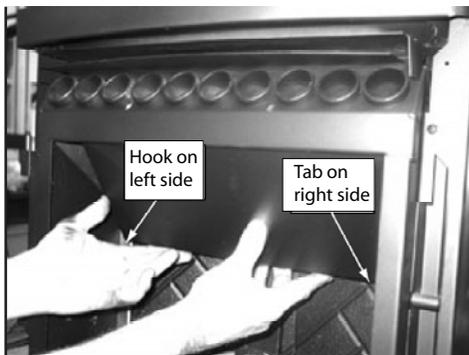

Figure 37.1
The top baffle has a hook on the bottom left side that rests on the top lip of the cast brick. There is a tab on the bottom right side that hooks into the side bracket. Remove the top baffle by first pulling the baffle forward until back edge drops down. Then slide baffle back until the front edge clears the shelf that it had been resting on. **Figure 37.1**.
3. Lift slightly and pull the right edge of the brick forward until it stops and then drops down into both top and bottom notches of right bracket and locks into place. **Figures 37.1 and 37.2**.